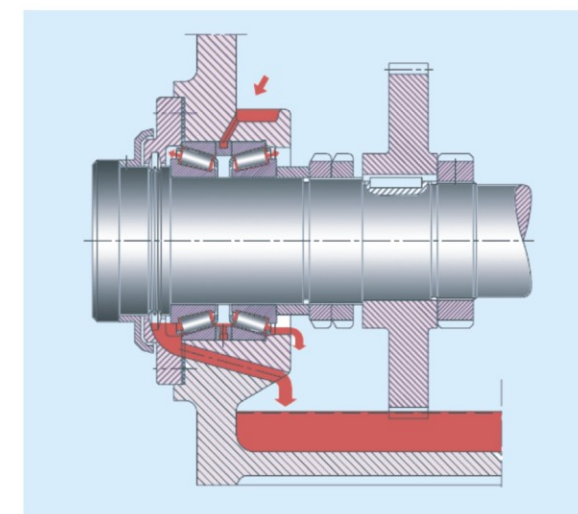

Fig 8-1 : Oil bath lubrication
- Oil bath lubrication : This is an efficient method, this allows the bearing to be partially submersed in the oil lubrication, the use of oil spraying on to the bearing is another method. (Fig 8-1)